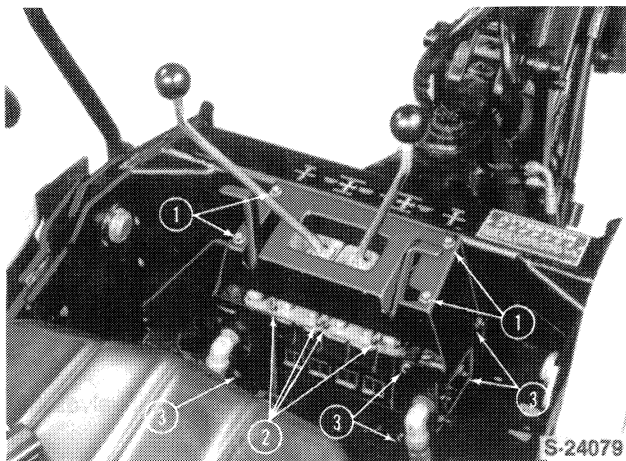

Figure 32
1. Remove the four bolts securing the top plate, Figure 32, from the control valve supports.